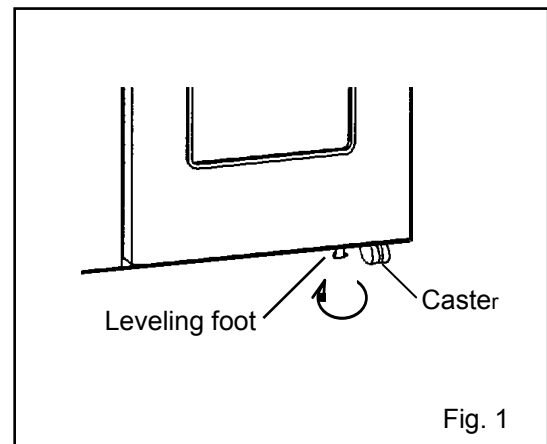

Fig. 1
See Fig. 1. Ensure the unit is level.
2. Remove the monitor bottle cover as shown in the figure 1.